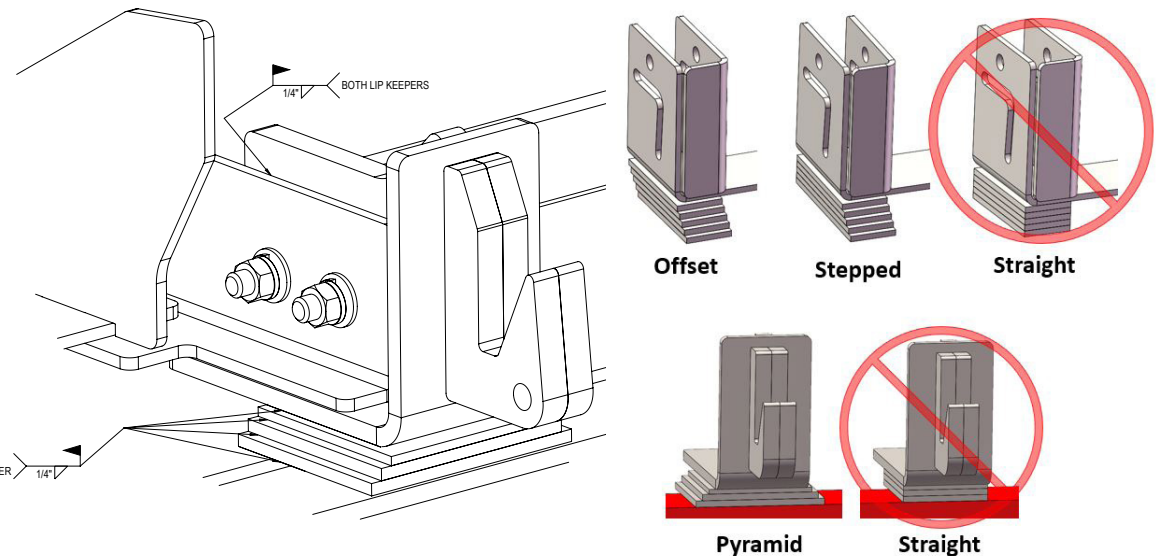

Figure 14
1. Shim below lip keepers and maintenance brace, using a prybar to lift the front of the leveler up to insert the shims, as shown in **Figure 14**. The leveler must be shimmed until the front of the deck is level with or just below dock height when the leveler is stowed.
3. Weld front frame angle, curb angle, and shims together, as shown in **Figure 14**.